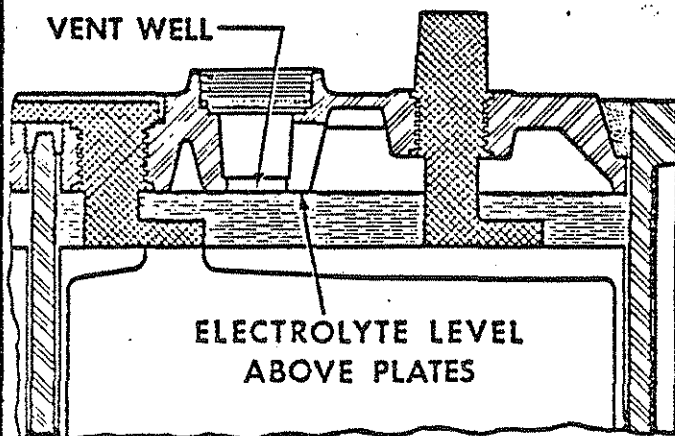

Figure 4—Top of Battery Cell and Cover Cut Away to Show Construction of "Visual Level Fill" Cell Cover and Proper Electrolyte Level Above Separators.
6. All Delco batteries have cell covers with the "visual level fill" feature (Fig. 4). Guesswork is thus eliminated in filling the battery to the proper level. The cell is properly filled when the electrolyte level rises to the bottom of the split ring. Do not overfill.